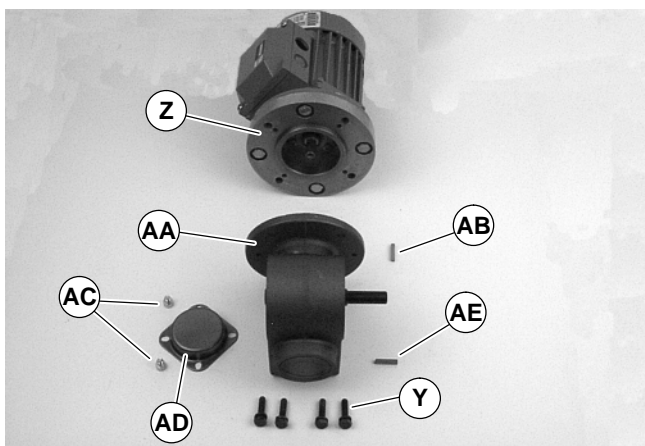

Figure 15
5. Remove four screws (Y of Figure 15). Detach motor with adapter flange (Z) from gear reducer (AA). Retain motor output shaft key (AB).
10. With key (AB of Figure 15) in keyway, slide motor with adapter flange (Z) and gear reducer (AA) together. Install screws (Y) and tighten.